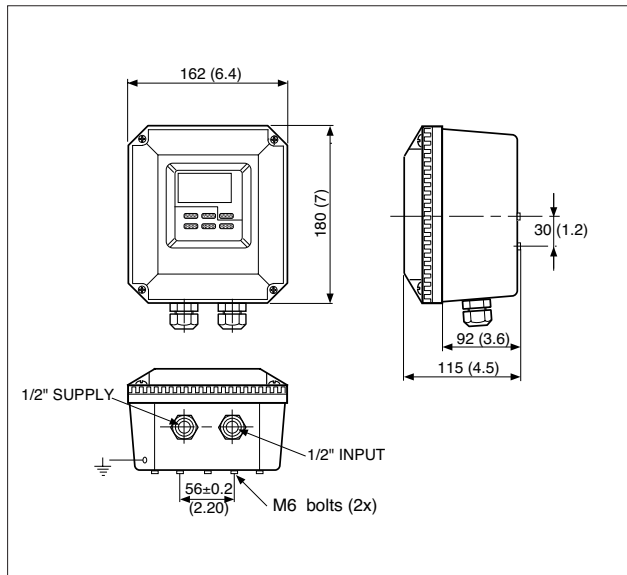

Figure 3-1. Housing dimensions and layout of glands
- Access is possible to the cable glands (figure 3-1)